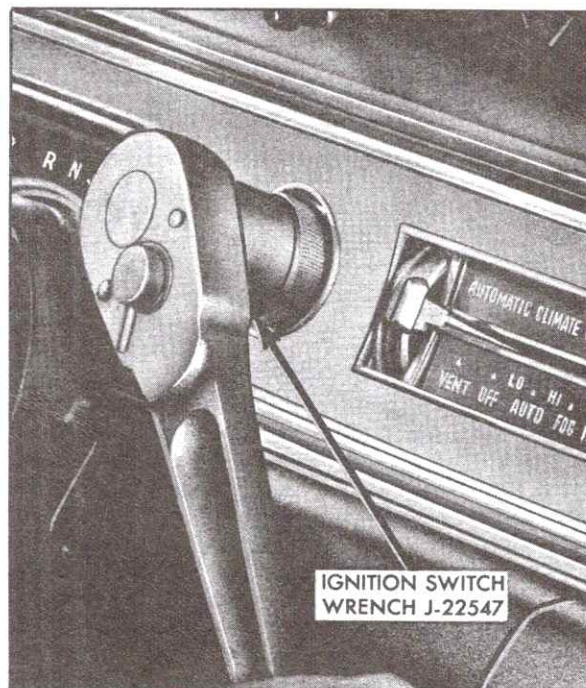

Fig. 12-43 Removing Ignition Switch
4. Remove ignition switch mounting nut, using Ignition Switch Wrench, J-22547, Fig. 12-43.
3. Install spanner nut on switch housing and tighten securely, using Ignition Switch Wrench, J-22547, Fig. 12-43.